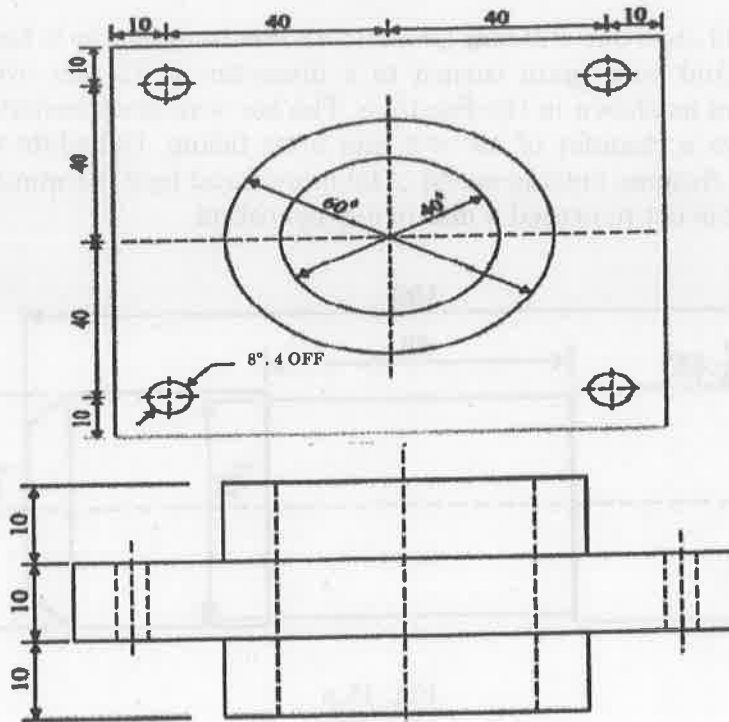

Fig. 16.b
- (b) Estimate the machining time to drill four 8 mm dia holes and One 40 mm dia central hole in the flange shown in Fig.16 b. A 20 mm dia hole is drilled first and then enlarged to 40 mm f hole. Take cutting speed 10 m/min, feed for 8 mm drill 0.1 mm/rev, for 20 mm drill feed is 0.2 mm/rev, and for 40 mm drill feed is 0.4 mm/rev.